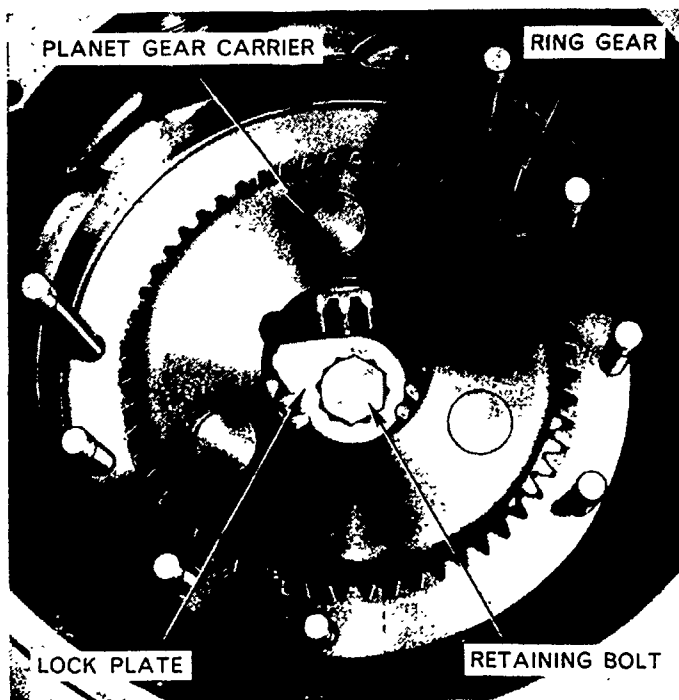

Figure 45
8. Remove the axle shaft bolt lock, axle shaft retaining bolt/bolts, axle shaft retaining washer, and selective spacer. The planet gears may have to be rotated to permit removal of the bolt lock, Figure 45.